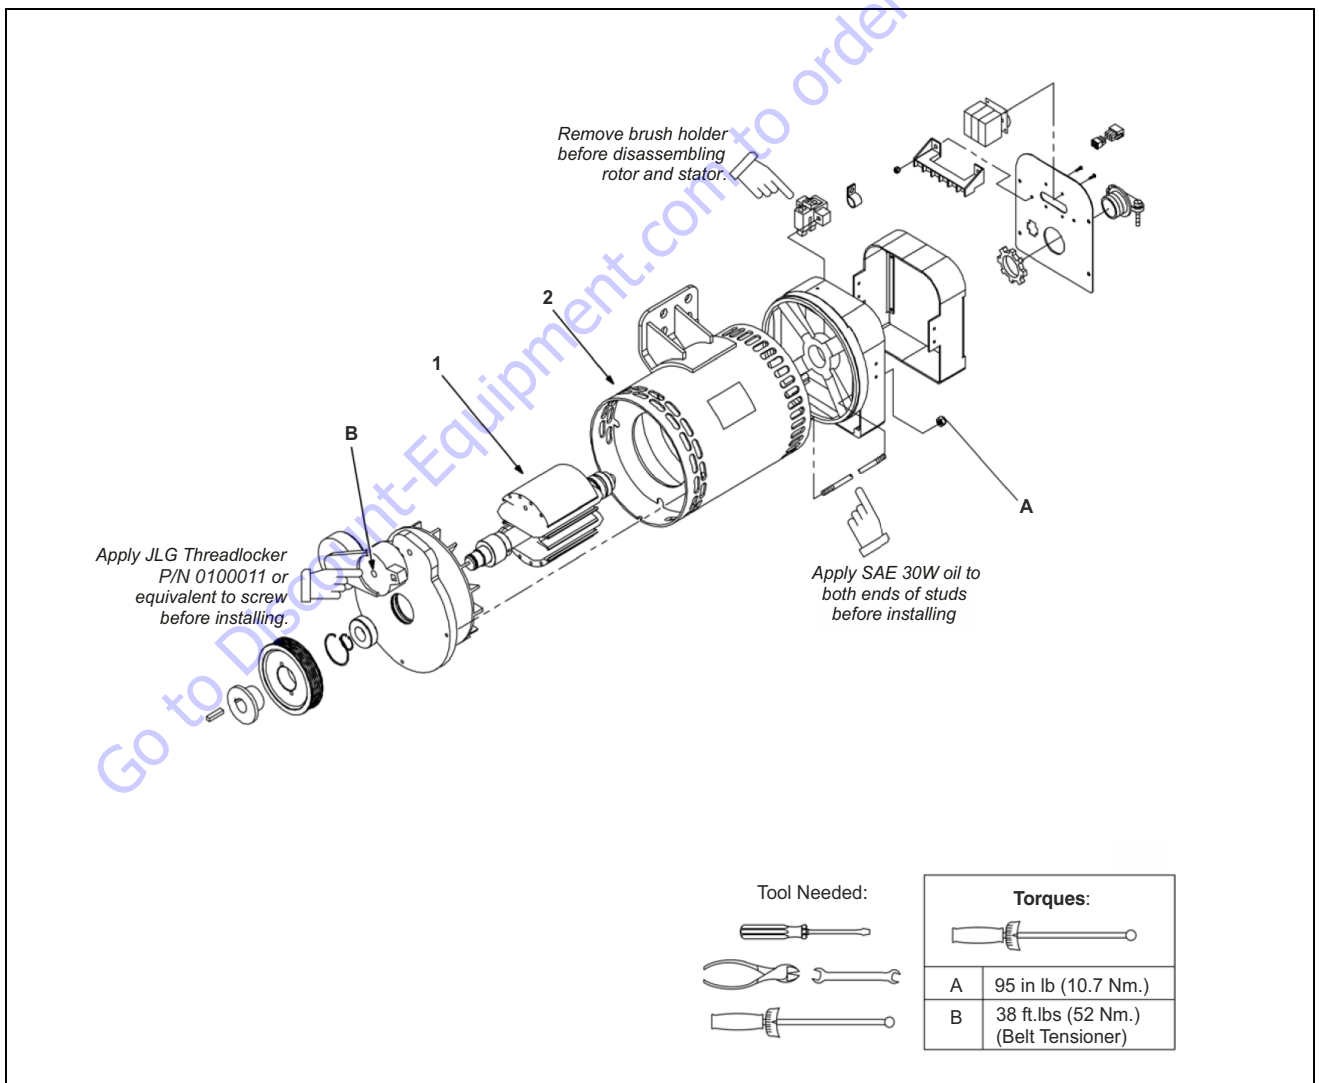

Figure 3-52. Generator Disassembly and Assembly
3. Disassemble generator parts shown in Figure 3-52.